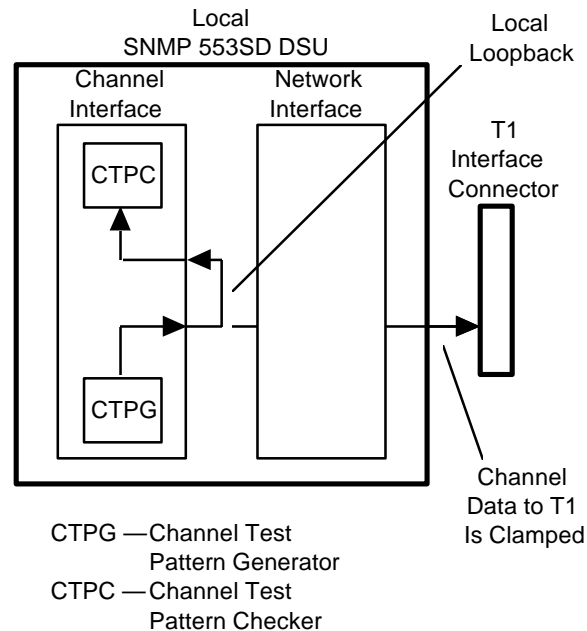

Figure 5-4 Channel Internal Self Test
The Channel Internal Self Test, illustrated in *Figure 5-4*, activates the Channel Test Pattern Generator (CTPG) and Channel Test Pattern Checker (CTPC) of the local DSU along with a Local Loopback (LL). It tests the channel interface of the DSU isolated from both the Network Interface and the DTE. Channel data transmitted to the T1 link is clamped during the test.